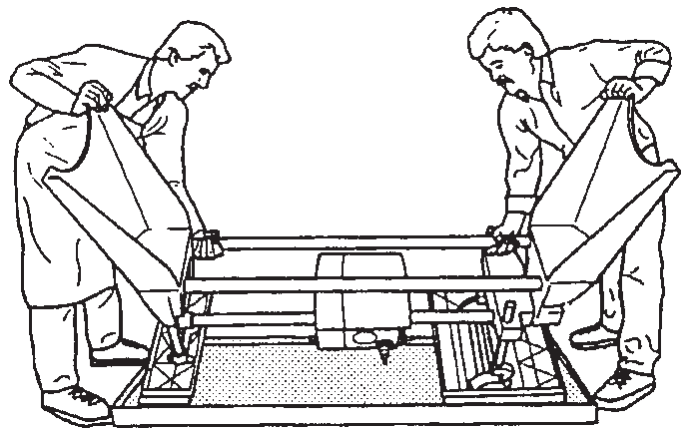
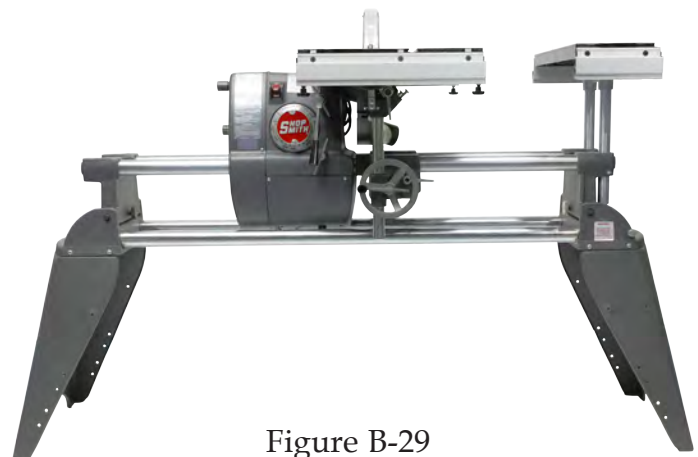

Figure B-28
Figure B-29
12. With a helper, turn the MARK 520S right side up as seen in Figure B-28. Figure B-29 shows the MARK 520S upright.